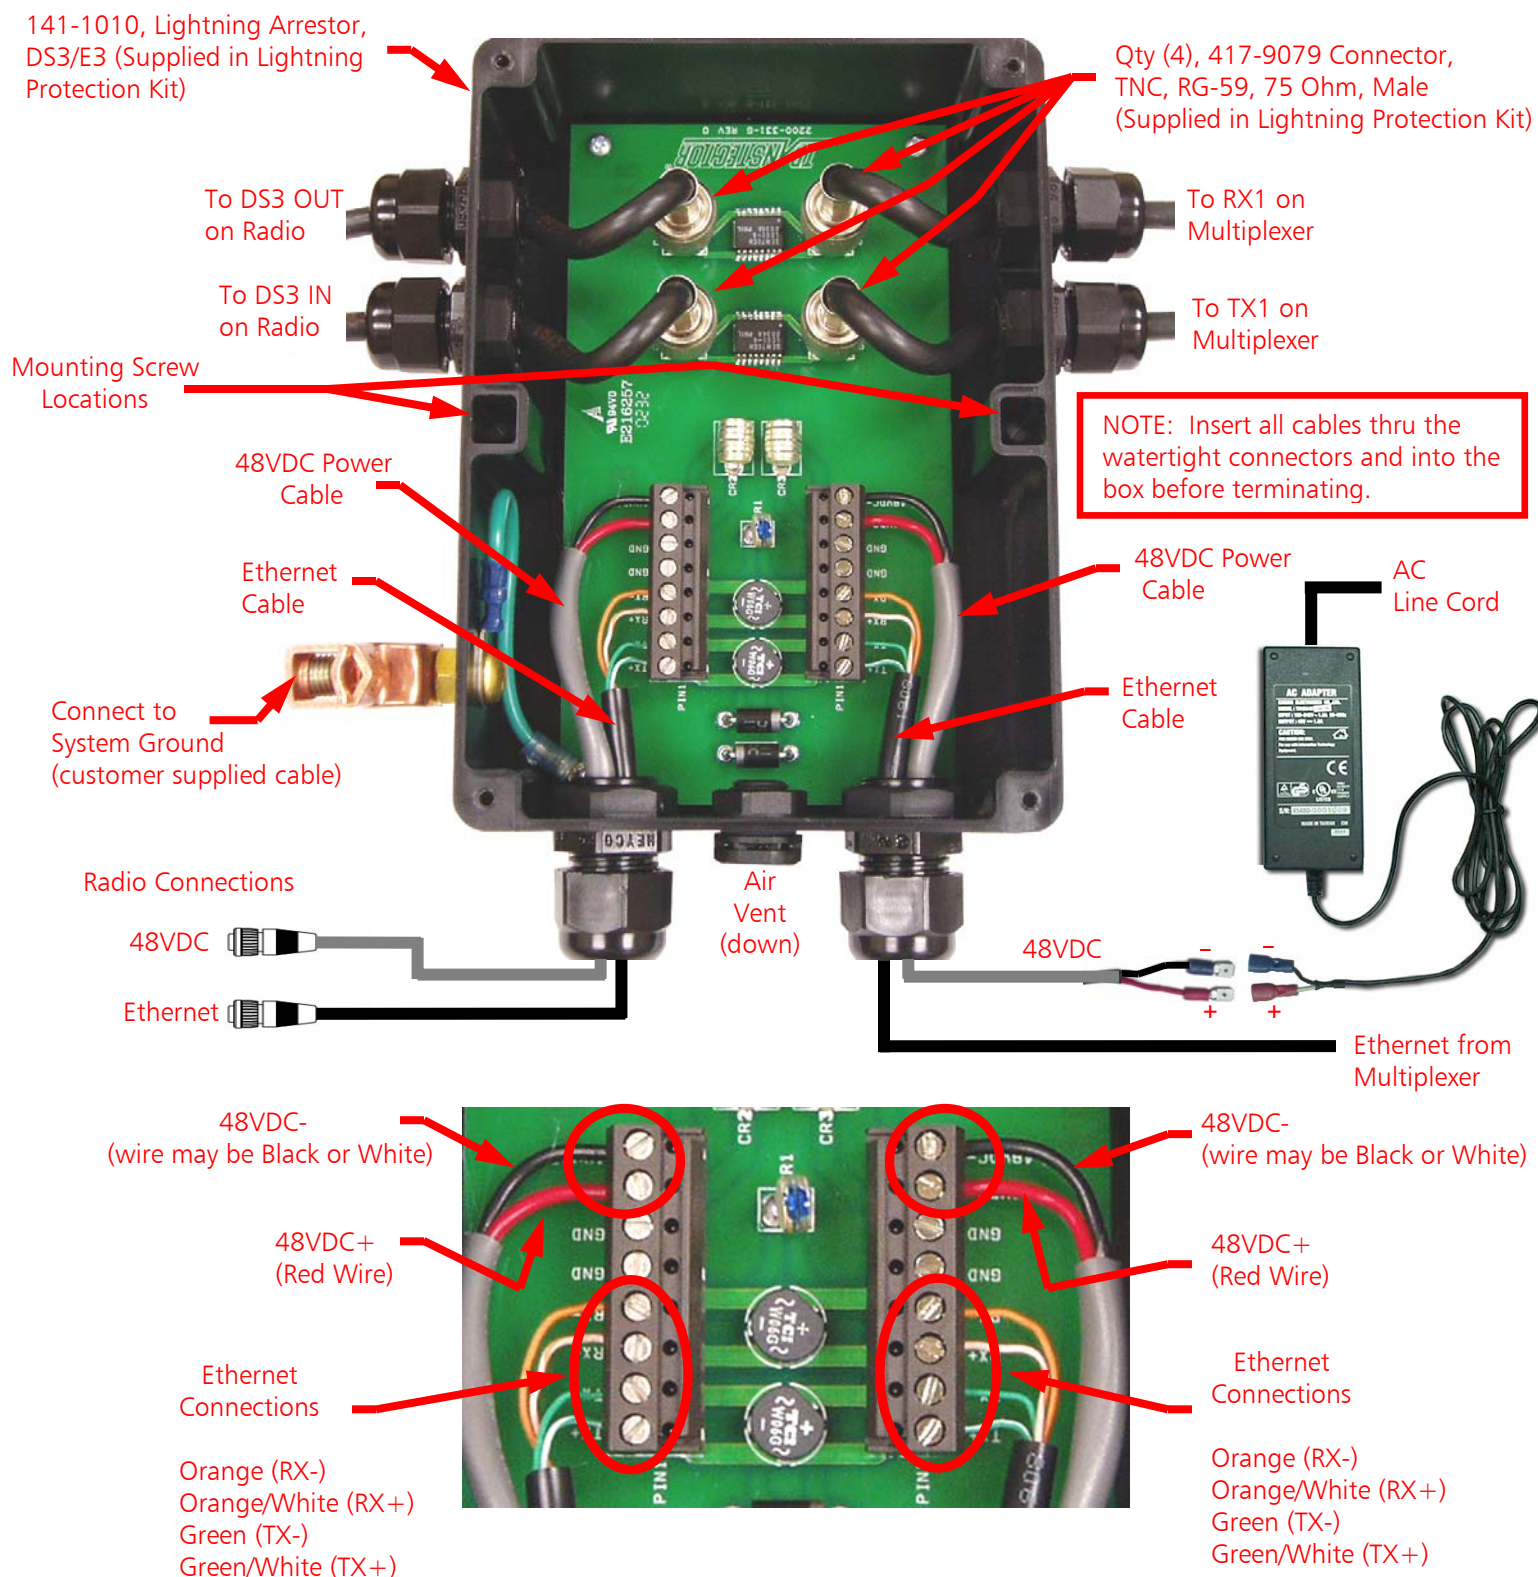

Figure 2 – Lightning Arrestor Box Connection Details
Step 2 – Determine the location of the Lightning Arrestor Box. Refer to **Figure 2** of this document for the Lightning Arrestor Box Connection Details. Additionally, refer to Section 2.13 of the BP4500 User's Guide for details. The Lightning Arrestor must be placed near the system ground and connected with customer supplied materials.
- Step 2** – If in a lab environment, connect cable with attenuators (minimum of 50dB) to the antenna connection on both radios. For outdoor installations, connect to the provided antenna. Be sure to install the coaxial lightning protector as shown in **Figure 2**.